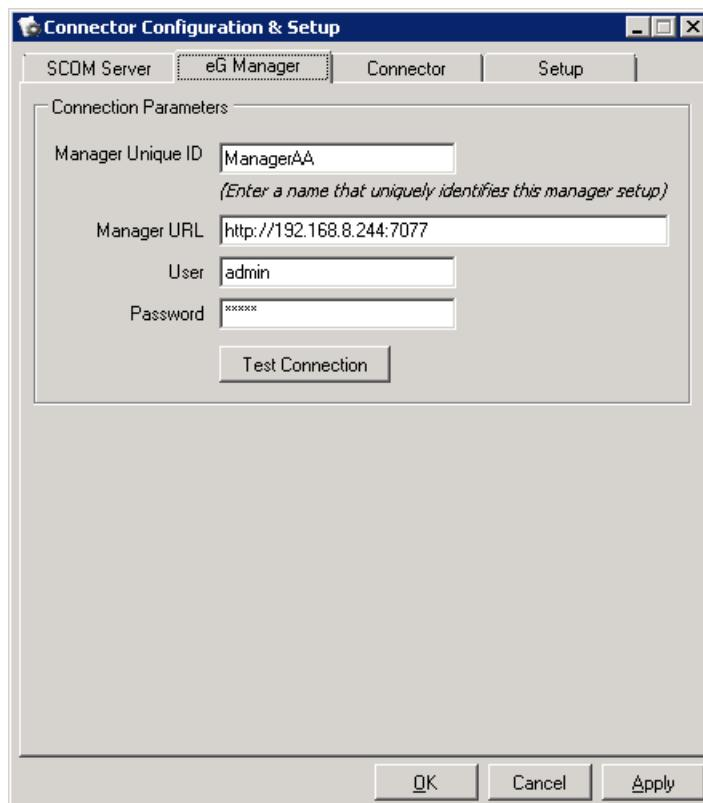

Figure 2.11: Configuring the eG Manager
6. In case of a failure, first click the **OK** button in Figure 2.10 to close the message box. Then, take another look at your specifications, make changes wherever necessary, test the connectivity yet again, and if successful, proceed with your configuration. To proceed, click the **eG Manager** tab page in Figure 2.11. Typically, the eG connector polls the eG manager for discovering the managed components/layers/tests/descriptors/measures from the eG Enterprise system and inserting corresponding monitoring objects and unit monitors in the SCOM server. Using the **eG Manager** tab page of Figure 2.11, you can indicate which eG manager is integrating with the SCOM server and how to connect to it. As part of this exercise, specify the following:
7. Then, click on the **Apply** button in Figure 2.11 to apply the changes.